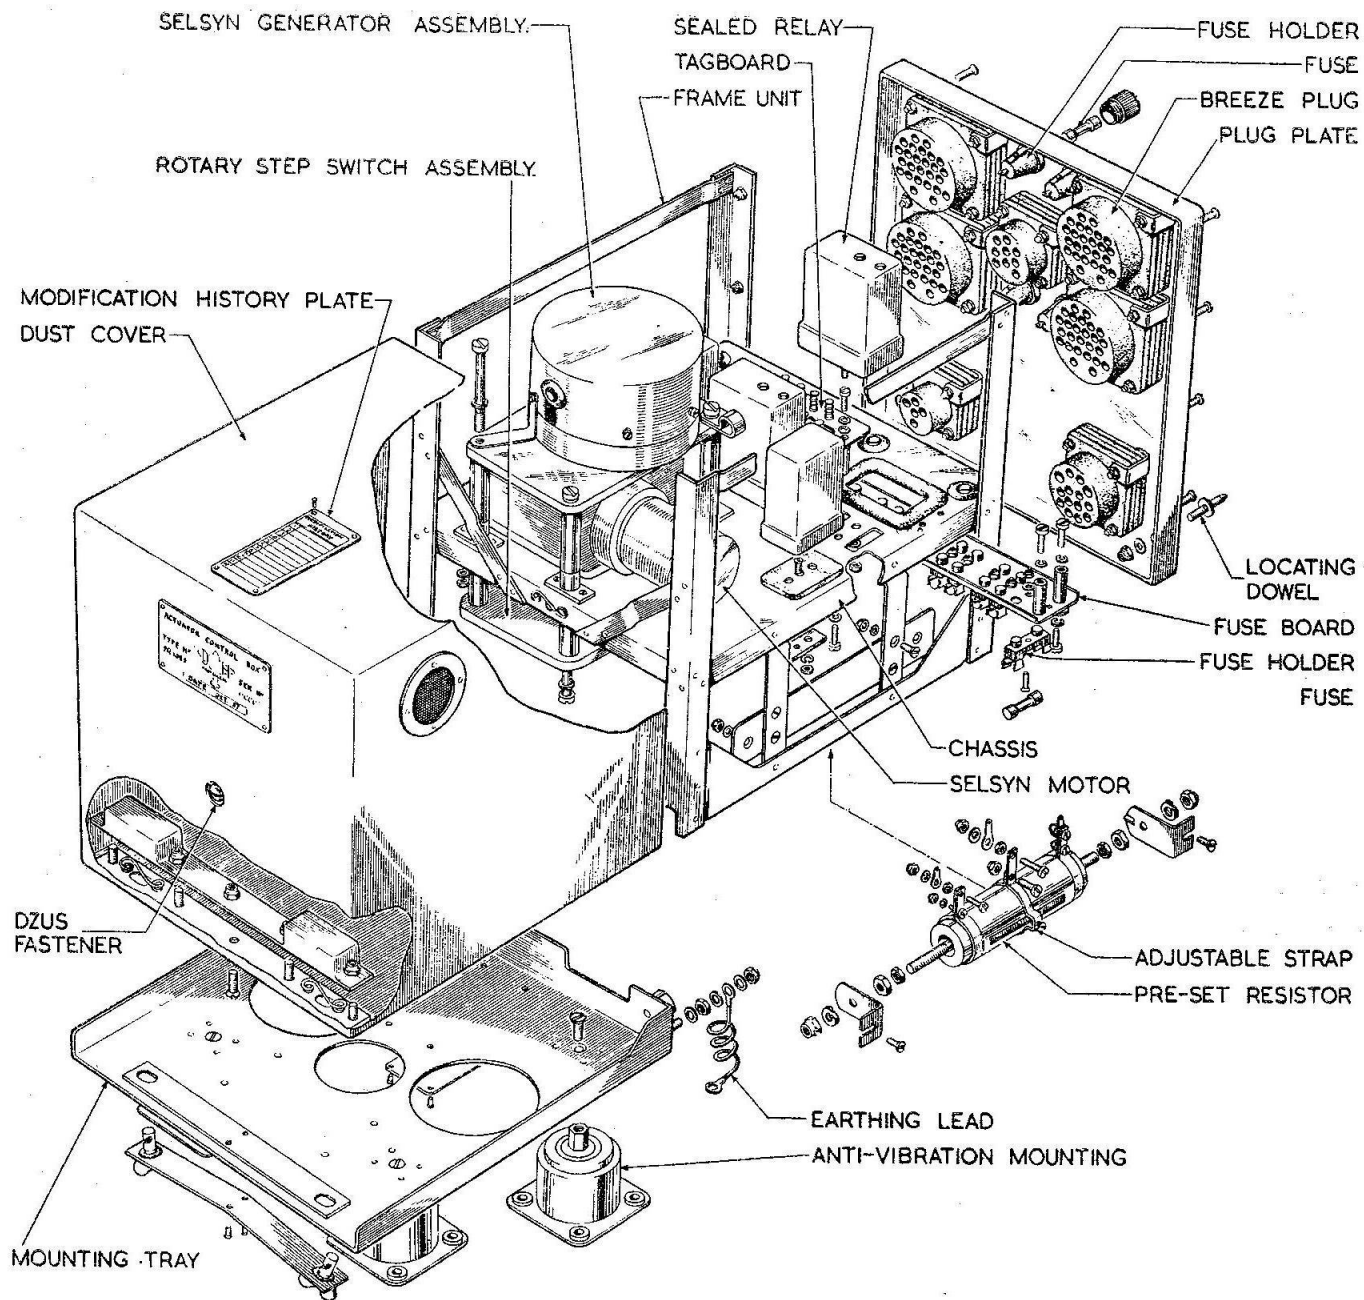

Fig. 1. Actuator control box
2. The actuator control box (fig. 1) consists of a Selsyn generator, driven by a motor with four speed-control resistors for pre-selection of the appropriate matching resistance; a motorized step switch unit which powers the